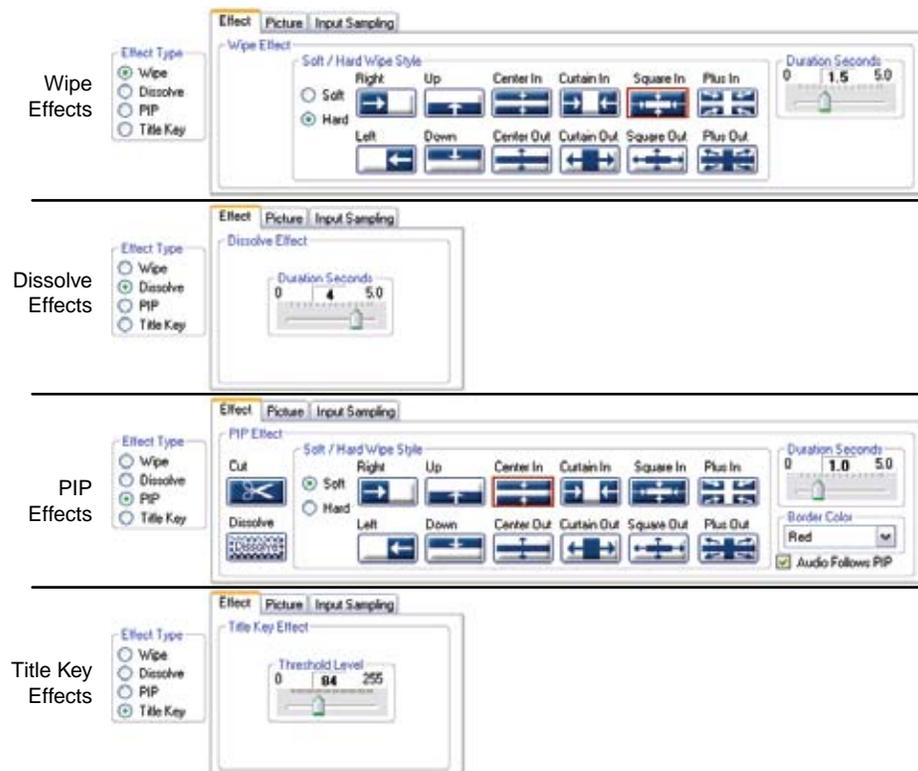

Figure 5-5 — Effects selections
- The Wipe Effect selections work similarly to wipe effect selections made through the menu system, and these selections differ depending on the Effect Type radio button that was selected (figure 5-5).
- The Duration Seconds slider (figure 5-5) works similarly to the Duration selection made through the menus system.